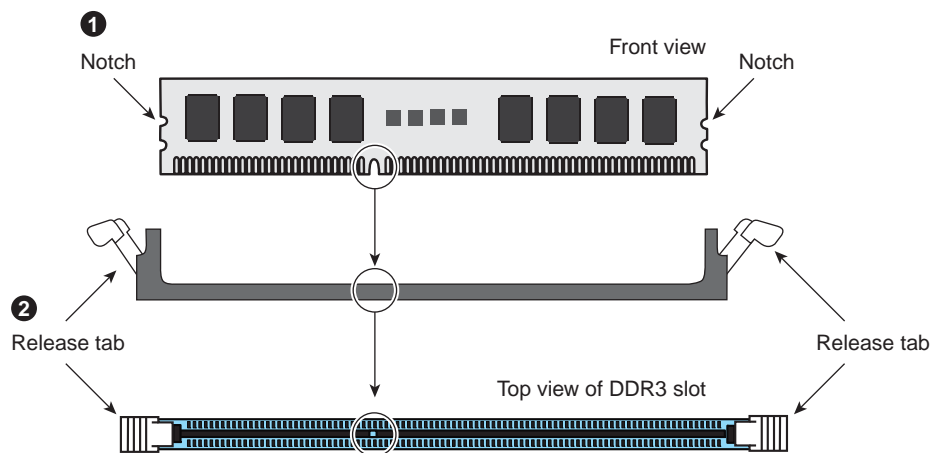

Figure 5-4 DIMM Installation Example
1. Insert the DIMM module vertically and press down into its slot until it snaps into place. Pay attention to the alignment notch at the bottom of the module to avoid installing incorrectly (see Figure 5-4). Insert the desired number of DIMMs into the memory slots, beginning with DIMM #1A and DIMM #2A, then DIMM #3A and DIMM #4A, etc. (see Table 5-1 on page 38 for DIMM placement with single-CPU serverboards). Always spread DIMMs across all applicable banks for each CPU. Gently press down on the DIMM module until it snaps into place in the slot. Repeat for all modules.
- To remove a DIMM module, use your thumbs to gently push the release tabs near both ends of the module (see Figure 5-4). This should release it from the slot.